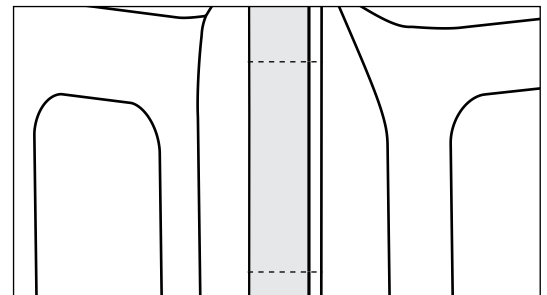

FIGURE 5. Fit side panels into place on back wall panel.
- Place back panel then fit side panels into place. (Fig. 5)